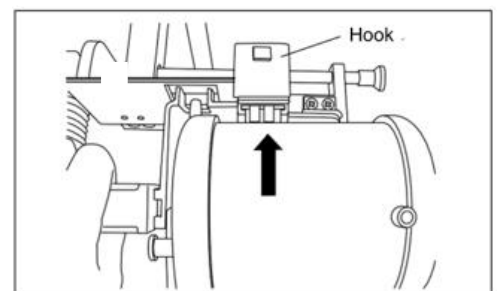

Figure 5
- ③ Insert the rim of back side of the oxygenator into the fixed hook of the holder (XX*EB04), and push forward and set the oxygenator (Figure 5).